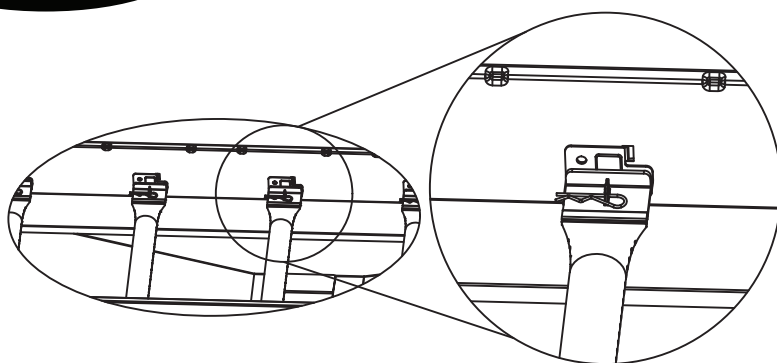

Figure 4
- 1) Remove the R-pin at the end of the burner as in Figure 4.